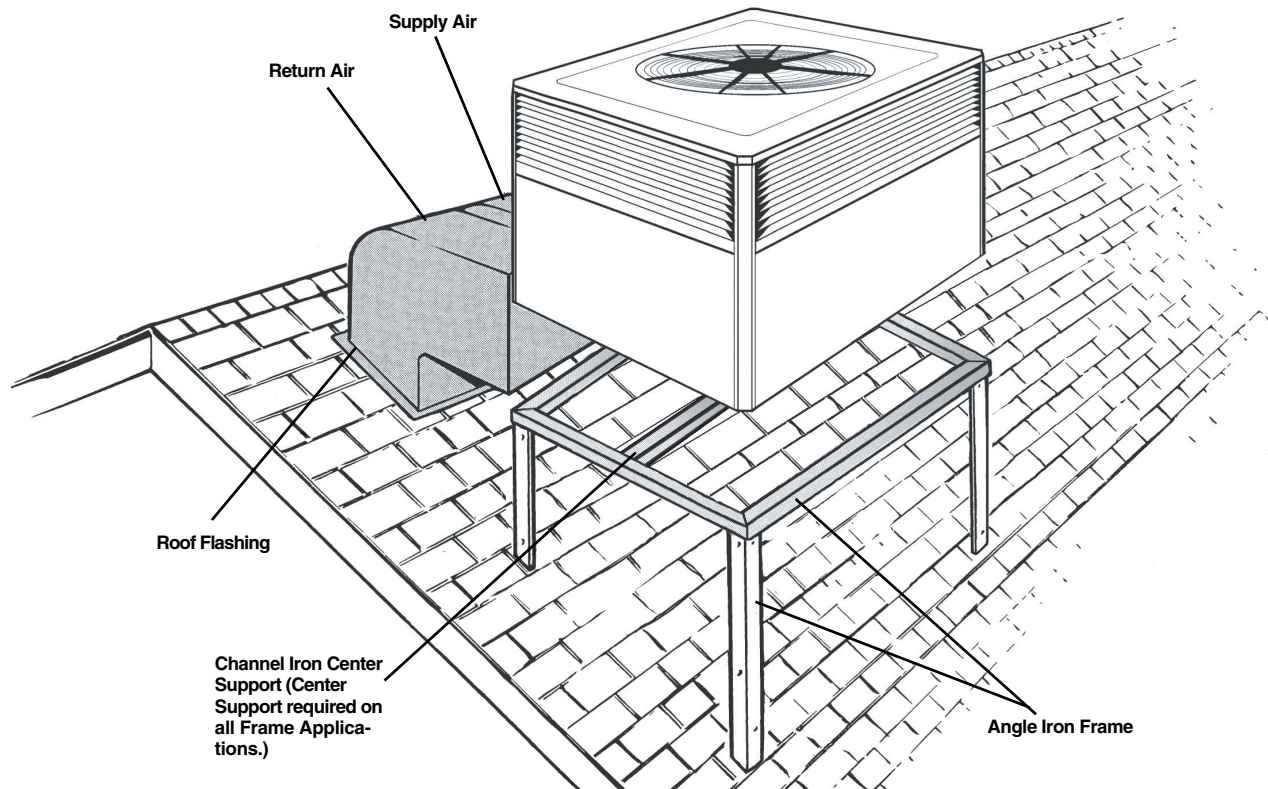

Figure 18. Typical Rooftop Horizontal Airflow Application with Frame
1. Locate and secure the frame to the roof by bolting or welding. Frame must provide adequate center support via a cross member centrally located channel rail. See Figures 18 and 19 on page 21. Vibration isolators should be installed as indicated in Figure 15, adjust as necessary for your frame. The isolators must be placed on base pan, not drip lip. Add flashing as required. Flashing must conform to local building codes.
5. Place the unit on the frame. Refer to Figures 18 or 19 on page 21.
8. Insulate any ductwork outside of the structure with at least two (2) inches of insulation and then weatherproof. There must be a weatherproof seal where the duct enters the structure.